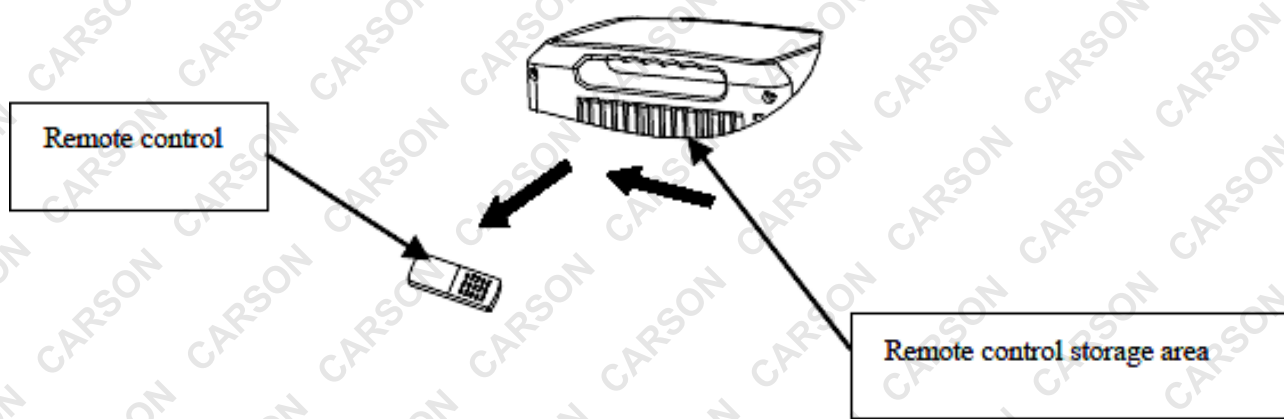

Figure 18
1. Take the remote control out of its storage area in the direction shown by the arrow (Figure 18).
3. If the remote control needs to be put back into the remote control storage area, put it back into the storage area in the reverse direction of removal as shown in Figure 18 above.